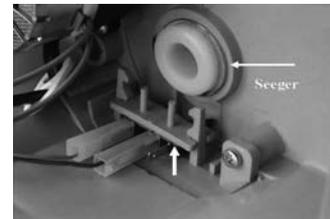

Fig. 10
switch are integer (Fig. 10).
- The micro switch is damaged. Open the case and check whether (Fig. 10): the micro switch is integer; it is placed correctly; the terminals are placed correctly; the connection wires are integer; the micro switch starting lever is integer.
- The cam is out of place. Open the case (Fig. 10) and check that the metal seeger holding the cam be integer and correctly placed in its casing. Turn the cam with your hand to check whether it activates the micro switch lever.
Fig. 10 clearly shows the micro switch, its block and command mechanical details, and the terminals for connection to the controller.